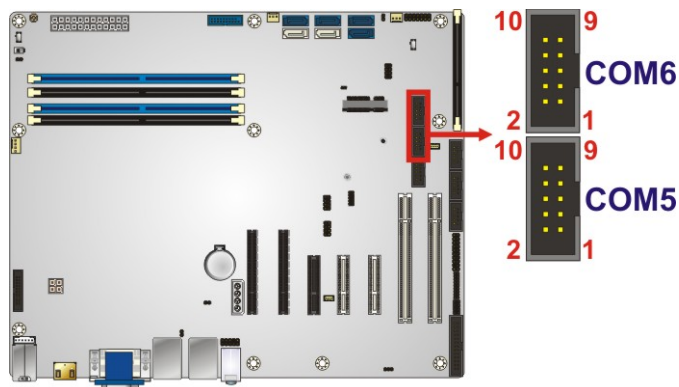

Figure 3-27: RS-232/422/485 Connector Location
- CN Location:** See Figure 3-27